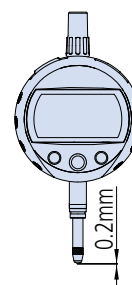

Fig. 2
4. When setting the zero point, retract the spindle at least 0.2mm from the rest position. (**Fig. 2**)